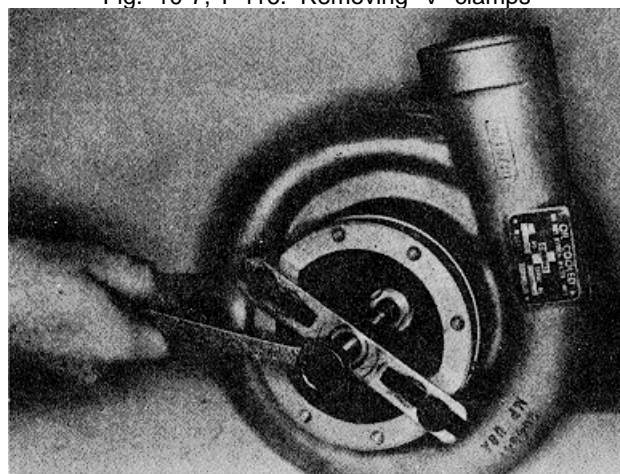

Fig. 10-8, T-516. Pulling impeller from rotor shaft
4. Using ST-647 Puller, secure clamp to collector housing with end of puller bolt on rotor shaft. Pull collector housing, oil seal diffuser plate and compressor wheel from bearing housing Fig. 10-8.